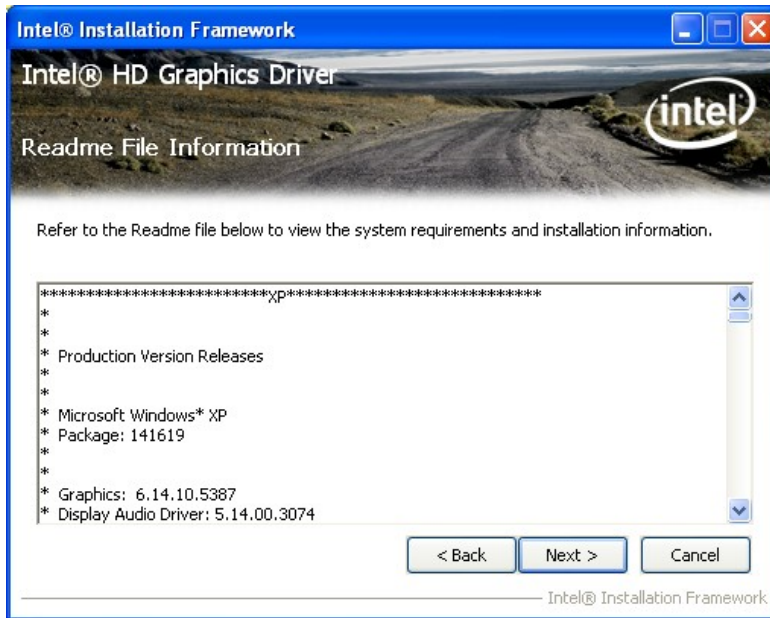

Figure 6-9: Graphics Driver Read Me File
Step 8: The Read Me file in **Figure 6-9** appears. Click **Next** to continue.